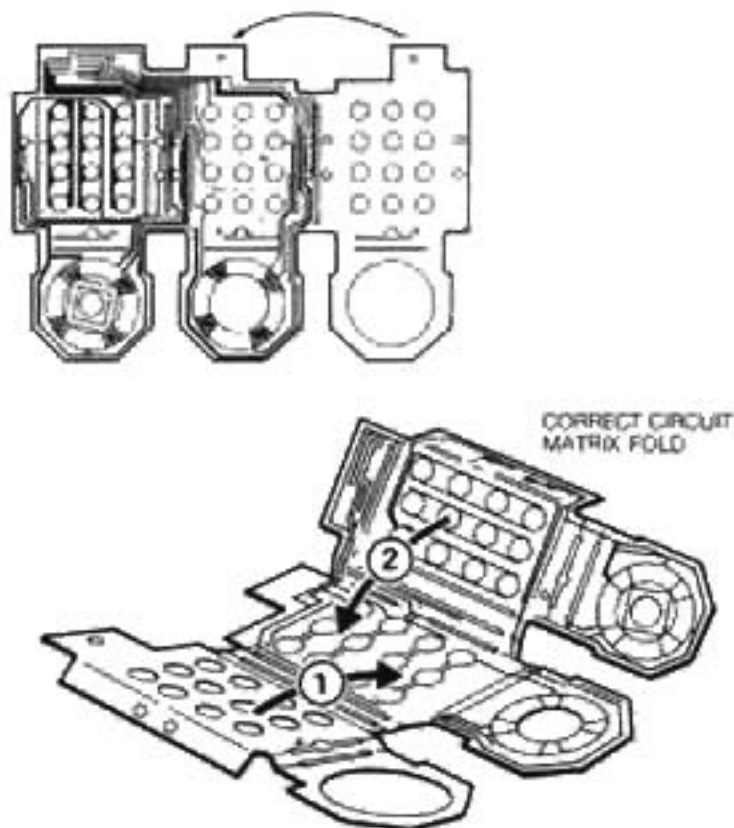

Figure 4-6
2) Make sure the replacement circuit matrix is correctly folded as shown in Figure 4-6 below.